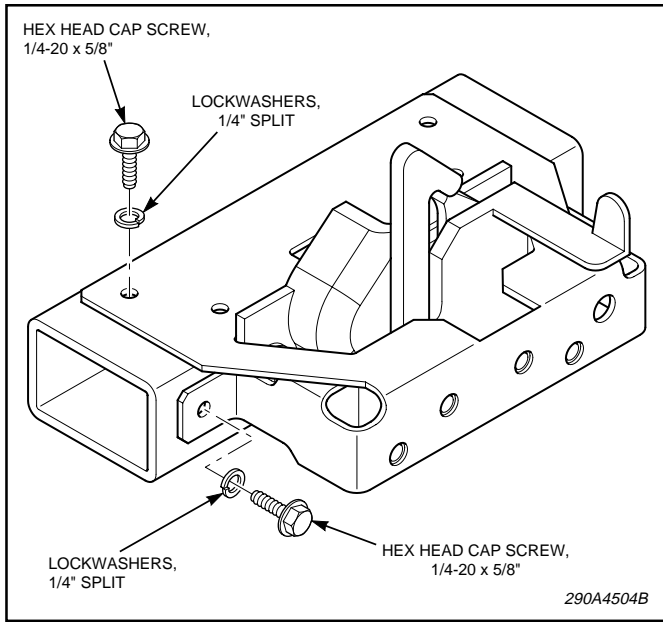

Figure 3.
- g. Secure the main bracket to vehicle using five 1/4" x 5/8" thread-forming screws and split lockwashers. See figure 3.